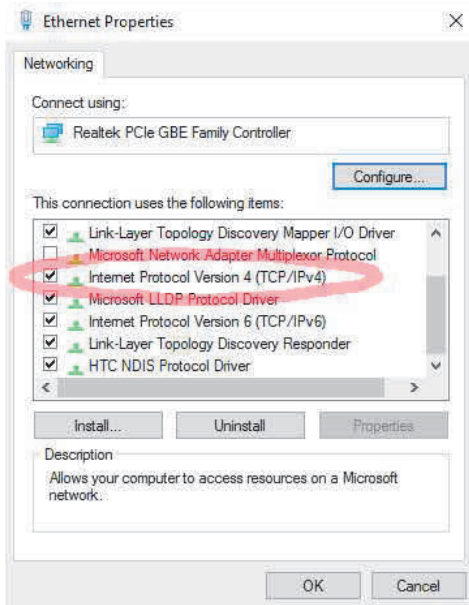

Figure 4-4 - Ethernet Properties window Choose the IPv4 row
- In the contextual menu that appears when you right click on Ethernet choose Properties. The Ethernet Properties window will pop up as shown in Figure 4-4.